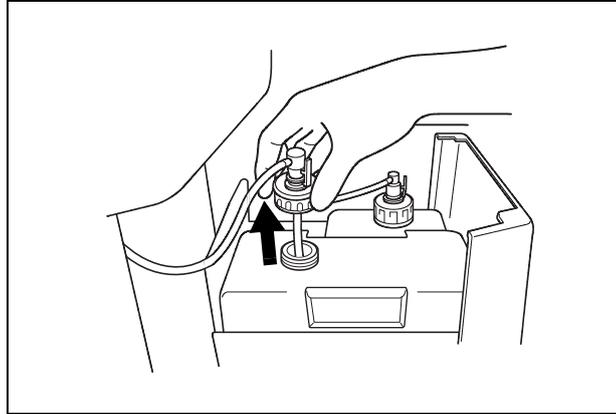

Figure 7.87
2. Detach the detergent tank cap to which a tube is connected (Do not disconnect the connector.) (see Figure 7.87).